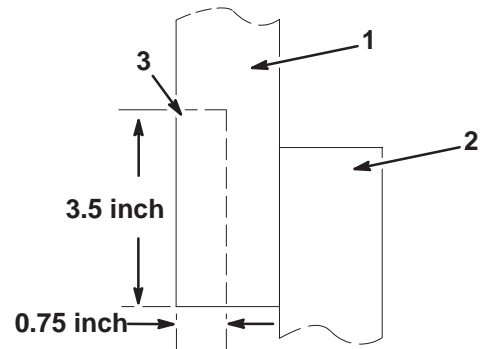

Figure 15
8. If you have an older model unit, you will have to cut the hold in assembly to allow clearance for hose (Fig. 15).